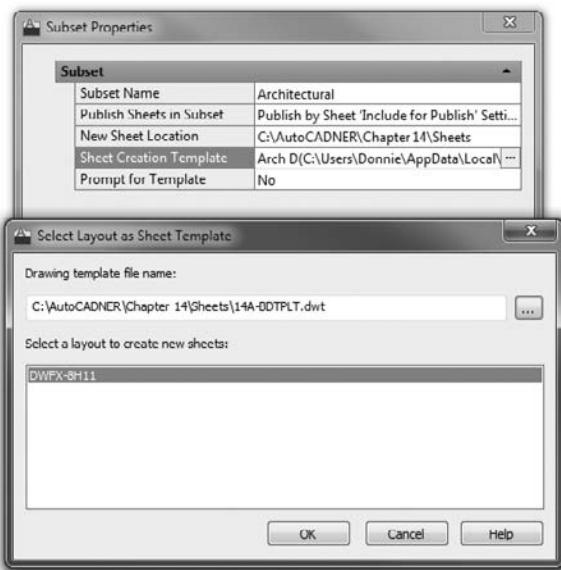

FIGURE 14.44 Selecting the DWFX-8H11 layout as the Sheet Creation template for the Architectural subset
6. From the Subset Properties dialog box, click into the Sheet Creation Template property and browse to your 14A-BD8H11.dwt file to select the DWFX-8H11 layout, as shown in Figure 14.44.